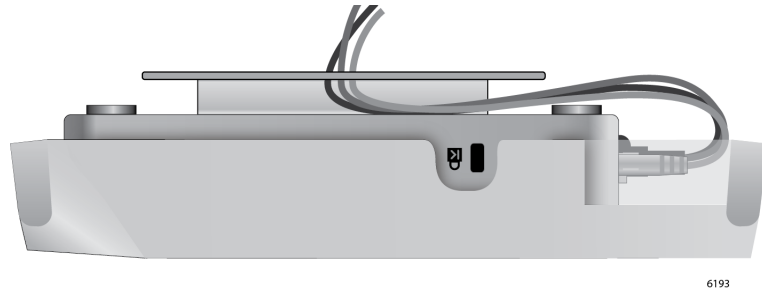

Figure 22. Fitting the Cables in the Cable Hide
4. Place the Ethernet cable(s) and power cable (if any) along the cable guides inside of the top cover in the cable hide space. See Figure 22.